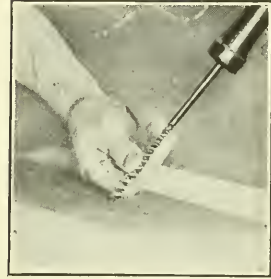

Fig. 154
48. Use of the Brace and Bit.—Fasten the bit firmly in the jaws of the brace. It is often well before boring in hard wood to prick a hole with an awl to start the worm of the bit in the exact place, as sometimes it works off to one side. The worm can be placed on the point as in Fig. 154, and the brace and bit changed to the proper position before boring. After the bit has gone a short distance into the wood, stop boring, stand squarely in front, and judge by eye whether the bit is at right angles with the work. Then stand at either side at right angles